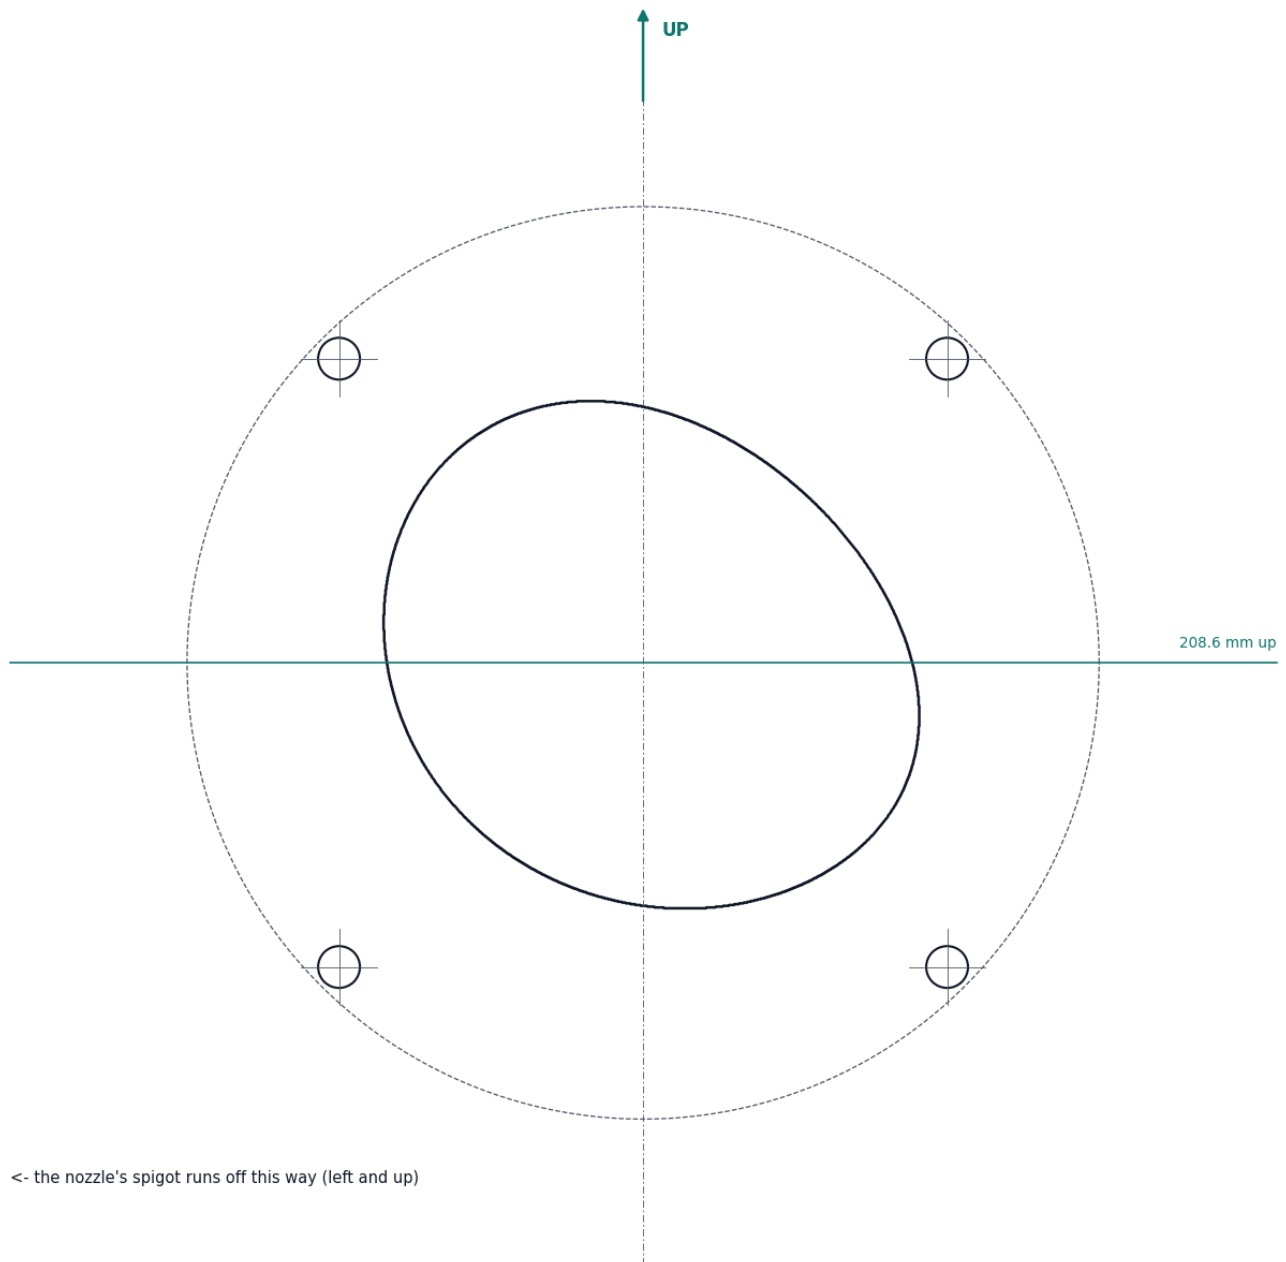

Figure 6. Nozzle hole template, unrolled onto the pipe surface. Print the PDF version (docs/05-build-plan/nozzle-hole-template.pdf) at 100 %.
3. Print two copies of the template (Figure 6) at actual size and check the 50 mm bar. Tape one to the pipe with its green line on your mark and UP toward the top. Tape the second half way round the pipe, also on the mark and also with UP toward the top.